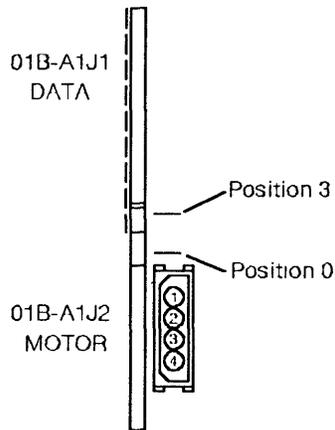

Figure 4-74. FDD Connectors
1. Check that the new FDD has a jumper in position 0, refer to Figure 4-74.